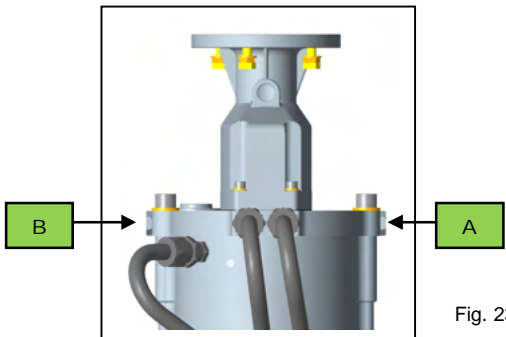
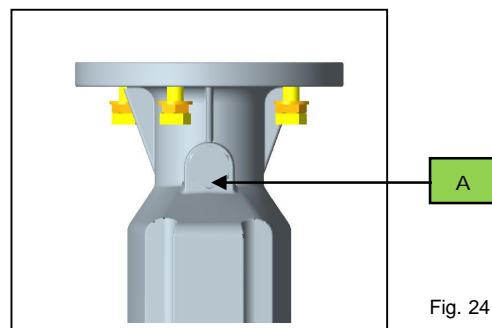

Fig. 23
Fig. 24
**Fourth step:** unscrew plug on the SDB-10. Depending on the position of the main air breather (SDB-15 or SDB-30) unscrew the right plug (Fig.23/A) or left plug (Fig.23/B). Unscrew the plug on the main air breather (Fig.24/A).